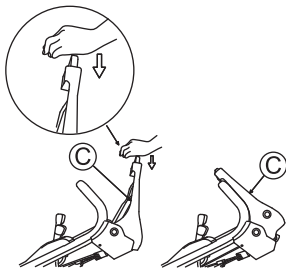

Fig. 17
3. Push the blade lever (C) forward while pressing its yellow button. Then, the blade starts rotating. (See Fig. 17)